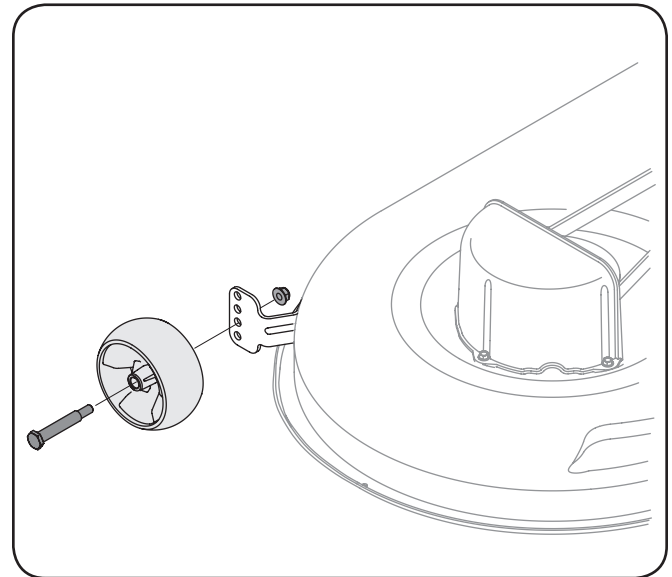

Figure 3-3
- b. Remove the front and rear gauge wheels by removing the lock nuts and shoulder screws which secure them to the deck. See Fig. 3-3.